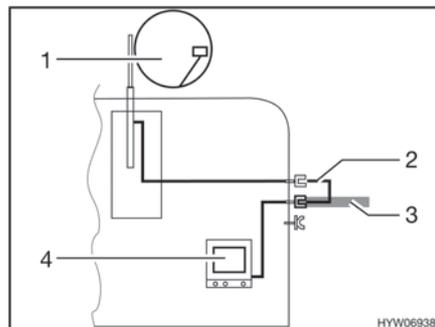

Fig. 149 TV inside the vehicle
- TV inside the vehicle (Fig. 149,4): Connection to roof antenna (Fig. 149,1) with connection cable (Fig. 149,2)
- TV inside the vehicle (Fig. 149,4): Connection to external antenna (Fig. 149,3)